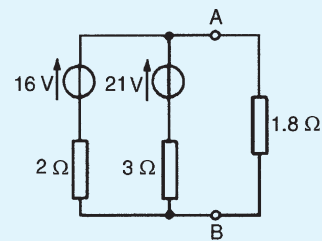

Figure 13.78
- (a) Convert the network to the left of terminals AB in Fig. 13.78 to an equivalent Thévenin circuit by initially converting to a Norton equivalent network.
- Determine the current flowing in the  $1.8 \Omega$  resistance connected between A and B in Fig. 13.78.